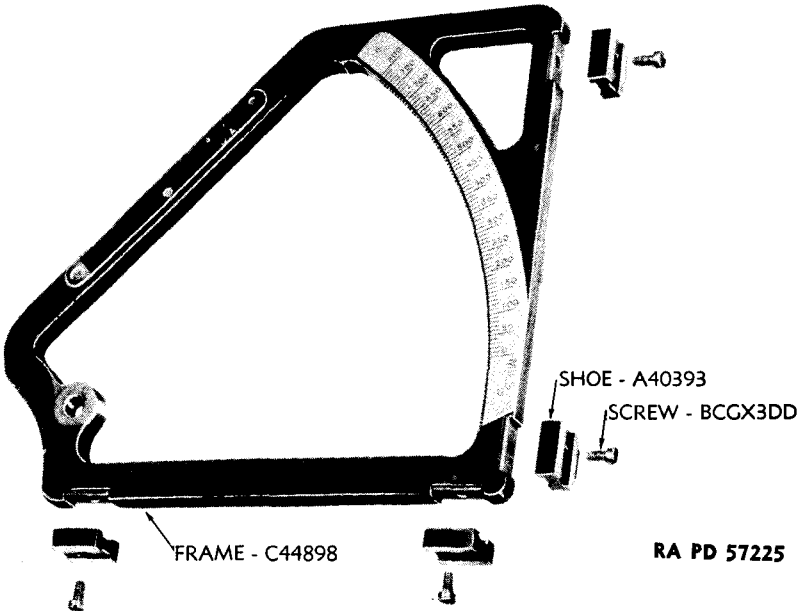

Figure 13—Gunner's Quadrants M1 and M1918—Frame with Shoes Removed
(7) **REMOVE SHOES FROM FRAME** (fig. 13). Remove the screws securing the shoes to frame, and tap off shoes with a brass hammer.
a. **Install Shoes to Frame** (fig. 13). Place shoes in position on frame, and secure with screws. Refer to paragraph 16 for adjustment of shoes.
(1) File the portion of the leveling clamp screw riveted to the clamping screw knob in order to free knob.
(2) Drive clamping screw knob from clamping screw, and remove screw through the inside of level guide.
f. Remove Shoes from Frame (fig. 13). Remove the screws securing shoes to frame assembly, and tap off shoes with 3-ounce brass hammer.
a. Install Shoes to Frame (fig. 13). Place shoes in position on frame, and secure with screws. See shoe adjustment paragraph 16.
(1) From inside of level guide, insert level clamping screw.